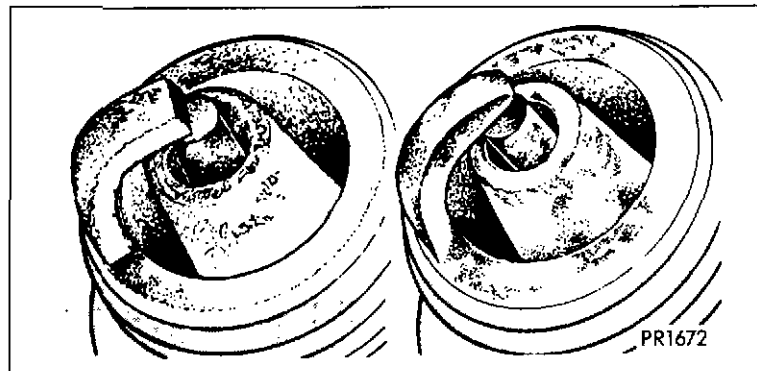

Fig. 16—Wet Fouling and Overheating
- d. Oil or ash incrustation (Fig. 16). If one or more plugs are oil or ash incrustated, search for the cause of oil entry into the combustion chamber and repair.